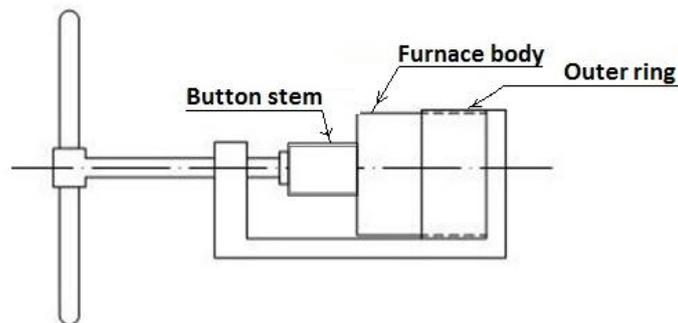

Fig. 10-2
- 1) Dismantle the left half of the graphite cone (Fig. 10-2): Loosen the two countersunk screws first, and remove the optical sensor and the left shielded quartz window. Put the button stem into the inner cavity of the left half of the furnace body, and put the outer barrel onto the outer ring of the graphite cone, clockwise screw the screw arbor to push the button stem until the left half of the graphite cone is pushed out.